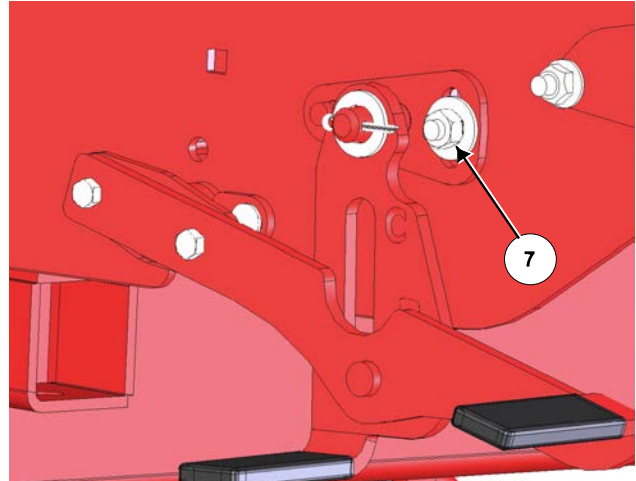

Figure 20: Adjust the Door Latch Mount for the Door to Lay Flat
16. Adjust the chopper door to lay flat on the chopper filler panel (see step 8) when in the bypass mode “B”, see *Figure 20*.
- Ensure the bolt (7) over the mount slot is not tightened.
- Tighten the carriage bolt (7) on the adjustment mount.